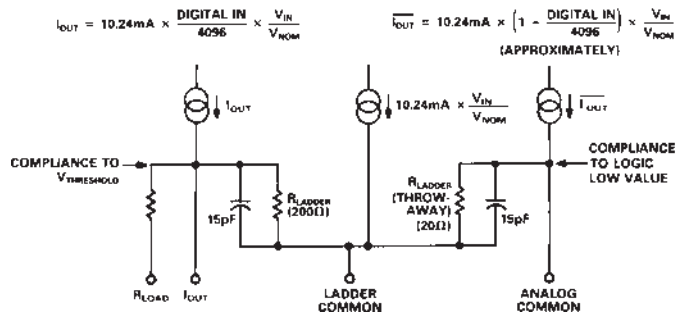

Figure 4. Equivalent Output Circuit
1Measured in  $I_{OUT}$  mode. Specified at nominal 5 V full-scale reference.2Measured in  $V_{OUT}$  mode, unless otherwise specified. Specified at nominal 5 V full-scale reference.3Total resistance. Refer to Figure 4.4At the major carry, driven by HCMOS logic.5 $V_{OUT} = 1$  V p-p,  $V_{IN} = 10\%$  to 110%, 100 kHz. Digital Input All 1s.6 $V_{IN} = 200$  mV p-p, 1 MHz Sine Wave. Digital Input all 0s. See Figure 20.7Measured at 15 V  $\pm 10\%$  and 12 V  $\pm 10\%$ .Specifications shown in **boldface** are tested on all production units at final electrical test.
The AD668 has an output compliance range of  $-2.0$  V to  $+1.2$  V (with respect to the LCOM pin). The current steering output stages will be unaffected by changes in the output terminal voltage over this range. However, as shown in Figure 4, there is an equivalent output impedance of  $200 \Omega$  in parallel with  $15$  pF at the output terminal, producing an equivalent error current if the voltage deviates from the ladder common. This is a linear effect which does not change with input code. Operation beyond the maximum compliance limits may cause either output stage saturation or breakdown, resulting in non-linear performance. The positive compliance limit is not affected by the positive power supply, but is a function of the output current and the logic threshold voltage at  $V_{TH}$ , Pin 13.
The internal wiring and pinout of the AD668 are dictated in large part by current management constraints. When using low impedance, high current, high accuracy parts such as the AD668, great care must be taken in the routing of not only signal lines, but ground and supply lines as well. The following accounting provides a detailed description of the magnitudes and signal dependencies of the currents associated with each of the part's pins. These descriptions are consistent with the functional block diagram as well as the equivalent circuits provided in Figures 4, 5, and 6.
**$I_{OUT}$**  – the output current. In the current output mode with this node tied to a virtual ground, a 10.24 mA nominal full scale output current will flow from this pin. In the voltage output mode, with  $R_L$  grounded, half of the output current will flow out of  $R_L$  and the other half will flow out of LCOM. External resistive loading will cause current to be divided between LCOM,  $R_L$ , and  $I_{OUT}$  as Figure 4 suggests.
**ACOM** – as indicated in Figure 4, the current flowing out of this pin is effectively the complement of IOUT, varying with both analog and digital inputs. Using this current as a signal output is not generally advised, since it is untrimmed and its positive output compliance is limited to the logic low voltage.